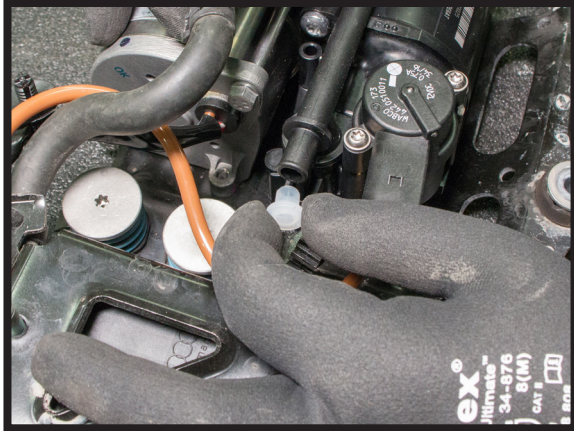

FIGURE 27
6. REMOVE THE PLASTIC SHIPPING PLUG FROM THE INTAKE AIR TUBE AND ATTACH THE AIR HOSE AS SHOWN BELOW. USE THE SUPPLIED CABLE-TIE TO ATTACH THE ELECTRICAL PLUG INTO PLACE AS SHOWN BELOW. (FIGURES 27, 28, 29, 30)